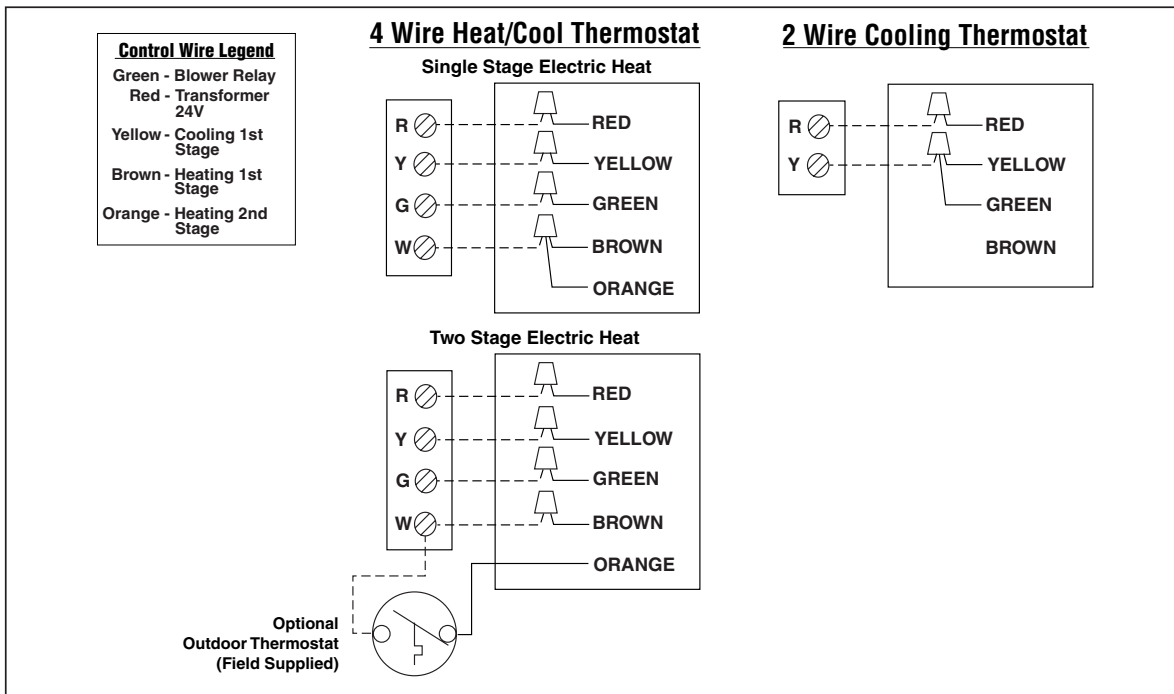

Figure 10. Low Voltage Connections
- Connect the control wires to the leads in the low voltage area. (See Figure 10).
- c. **If two stage heating is desired, an optional outdoor thermostat may be installed:** Connect the thermostat to the orange low voltage wire and the W terminal on the indoor thermostat base (See Figure 10). See the thermostat instructions for details on setting the outdoor thermostat.